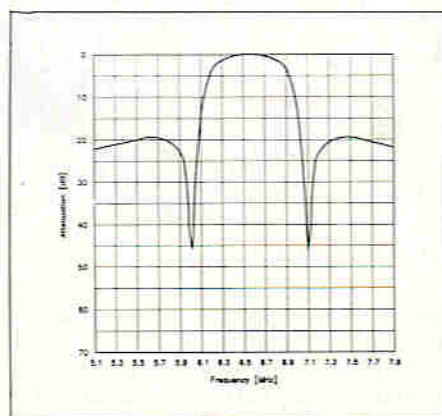

Figure 4. 6.552MHz band pass filter response.
nal is applied to PL3 pin 1 with pin 2 used to connect the screen of the input cable to ground. At this stage the NICAM signal is just one of many that are present in a television IF. Other signals include, video picture and sync, Teletext data and 6MHz FM sound. To extract only the NICAM signal an input filter comprising of C11, C13, T1 and R3, R5 is used on the gate of TR2. The other gate has a variable DC bias applied to it, derived from RV1, R4 and is decoupled to RF by C14. As the bias voltage is advanced, the amplification will increase to provide almost 20dB of gain. A second tuned circuit, C15, T2 and R7 is introduced into the drain of TR2. The low impedance secondary winding of T2 drives the input of the specially manufactured NICAM band pass filter, FL1. This device has been pre-aligned to produce the response shown in Figure 4. The output of FL1 is connected via C17 to pin 4 of IC1 the QPSK demodulator. This chip contains both analogue and digital circuits, so it requires the analogue +10V supply on pin 1 and the digital +5V supply on pin 30. Two voltage controlled crystal oscillators (VCXO) are used to produce the high accuracy timing required for the digital decoding process. The first oscillator is at 6.552MHz set by the crystal XT1 and the second is at 5.824MHz XT2. Between the demodulated carrier outputs on pins 10, 11 and the analogue inputs on pins 19, 20 is a low pass filter (LPF) comprising of two chokes, L1, L2 and four ceramic capacitors, C44 to C47. The rest of the components around IC1 are mainly used to set up resistor and capacitor (RC) timing networks for mute, AGC, carrier and clock AFC filtering. Three digital outputs are